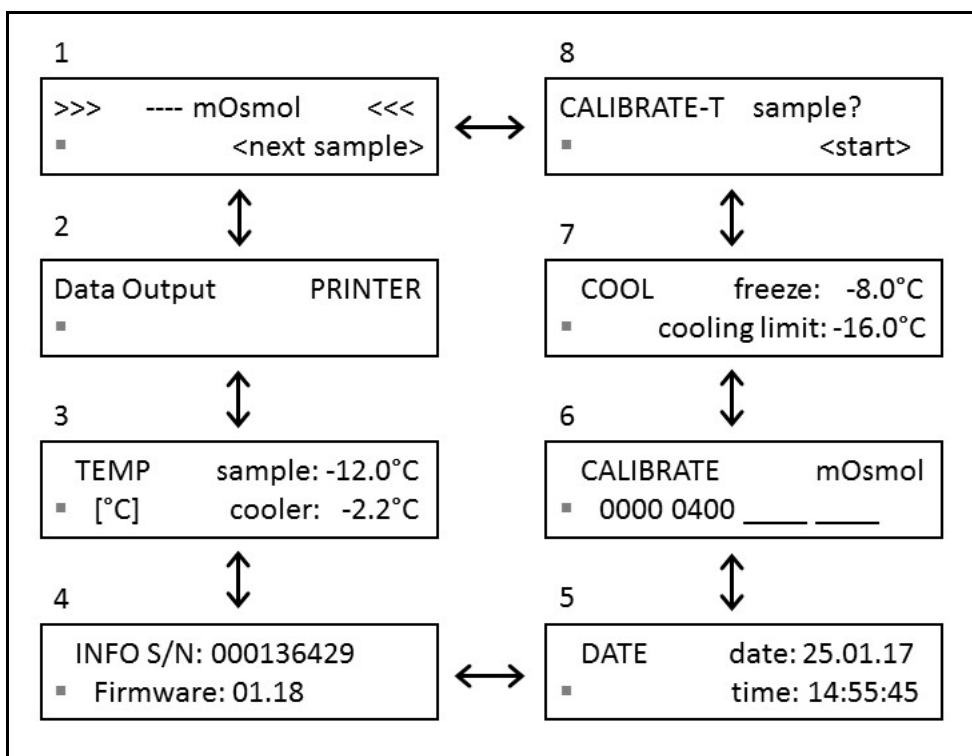

Fig. 8 Menu path
After completion of the self-test, the display shows the measurement screen (see Fig. 8 screen 1). The cursor is placed on the rhombus field. As shown in Fig. 8, it will take you to the relevant menu points.
1. Select CALIBRATE-T in the osmometer menu (screen 8 in Fig. 8).
- changing the temperature settings (see fig. 8 screen 7)
1. To perform measurements, choose screen 1 (Fig. 8) with the ▲ ▼ buttons and push the <START> button. While the measurement is running, the screen displays the sample temperature and the elapsed time.